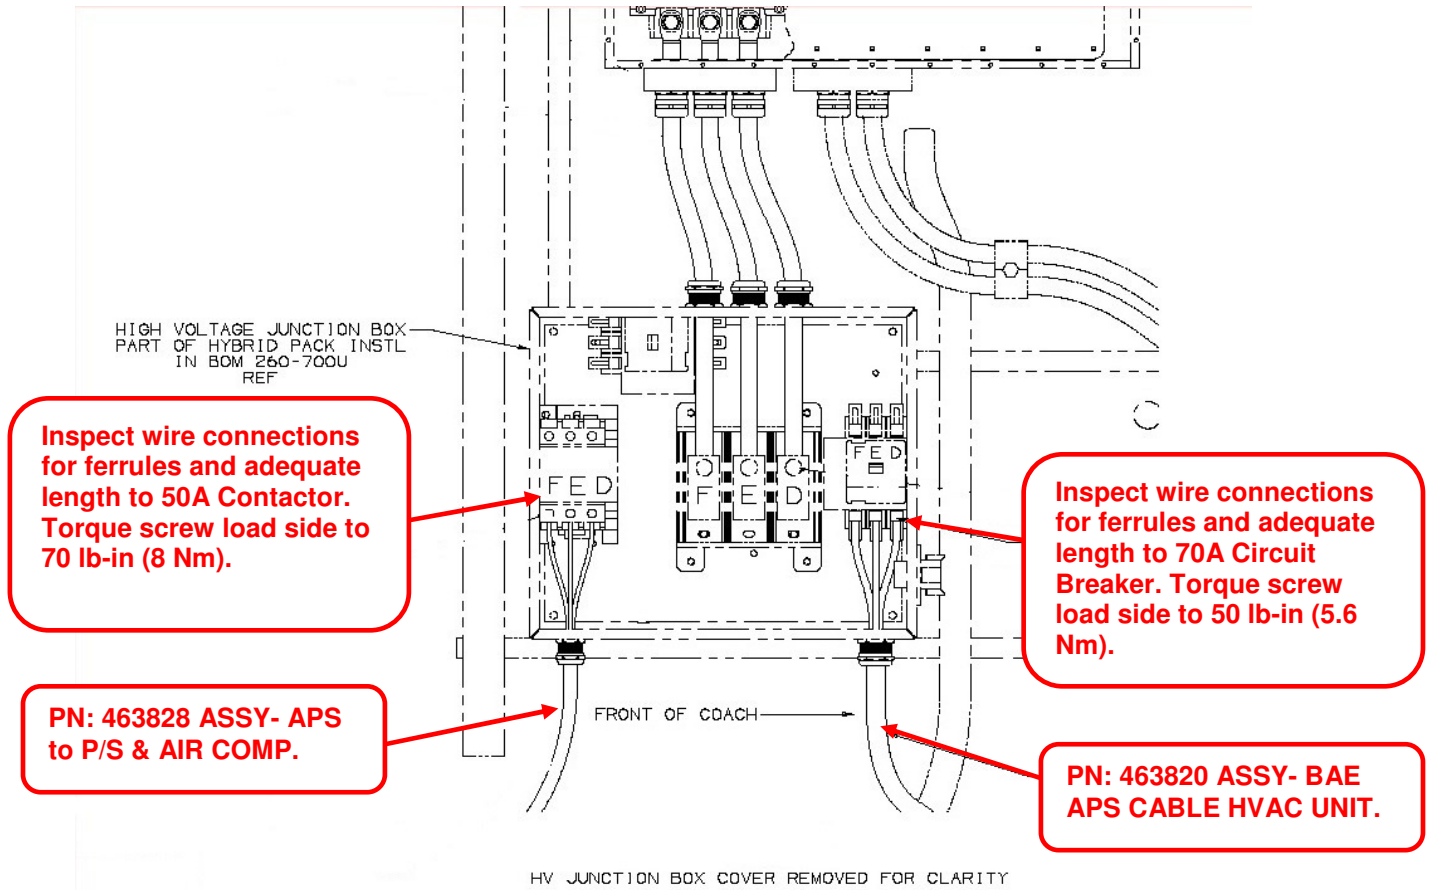

**Figure 1: Location of HV Junction Box and Electric HVAC Unit.**
2. Locate the High Voltage Junction Box on the roof of the bus. Refer to Figure 1. .